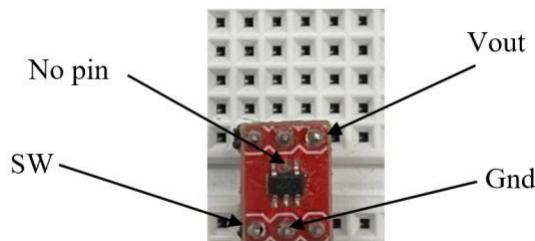

Figure 11a: The orientation of the 3.3V / 5.0V regulators with the breakout board.
- You are going to replace the battery shown in Figure 11a with the laboratory supply. Apply 2.9 volts to the input of the regulator using the laboratory power supply, limit the maximum current to 0.5 amps and measure the output of the regulator V_{out} (Record this value) with the LED connected to the output as the load (Record this value).